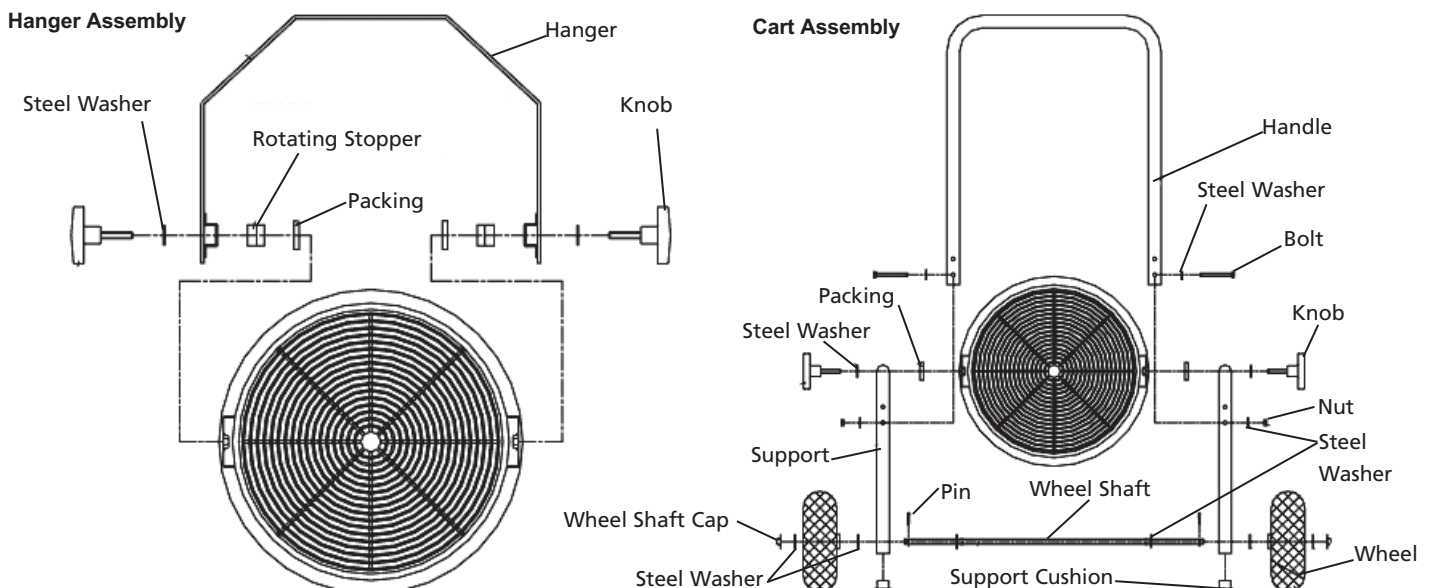

Figure 3 – Features
The Dayton portable electric heaters come mounted on a two wheeled tilt cart assembly, which can be moved around on its cart. The heater housing can be tilted to direct the air flow to any desired location. The features of the Dayton portable electric heaters are shown in Figure 3 below.
Re-install the hardware as shown in Figure 3, and fasten securely.
Install side rotating stop over bolts and into curved slots as shown in Figure 3, on each side of the heater.
Assemble hanger to heater as per Figure 3. This step requires no tools.
- The rotating stoppers shown in Figure 3 **MUST** be used.